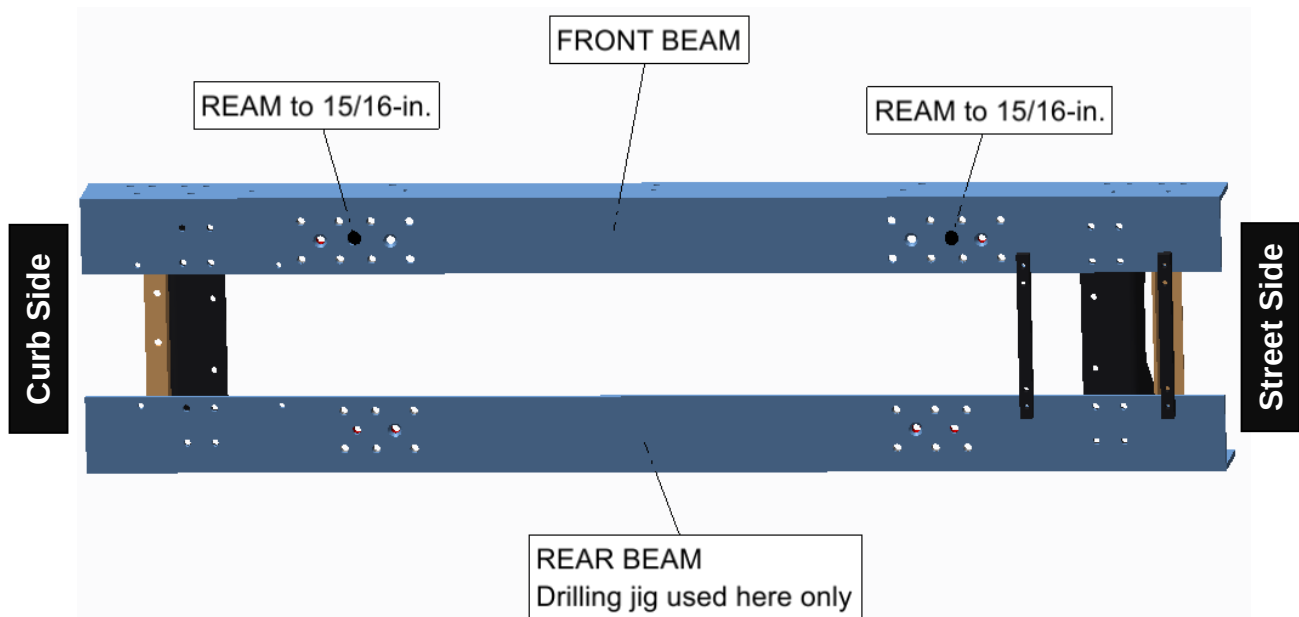

Figure 5. View of system beams from below.
10. The fuel system frame can remain in place, but new holes are needed in the lower mounting brackets, see Figures 5, 6 and 7.